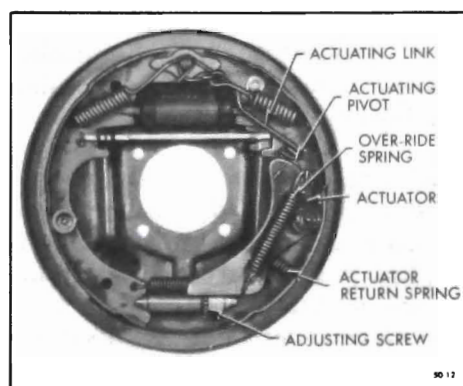

Figure 50-2--Left Rear Wheel Brake Assembly
A hydraulic wheel cylinder, mounted on the backing plate between the upper ends of the brake shoes, forces the shoes against the brake drum when the service brakes are applied. On rear wheels only, a lever mounted on each secondary shoe and connected to the primary shoe by a strut is used for applying the shoes when used as parking brakes. See Figure 50-2.
front parking brake cable is connected to the forward portion of a center cable. See Figures 50-3, 4 or 5. This center cable is routed rearward from the equalizer through retaining guides which attach to the underbody. The center cable attaches at either end to a rear cable assembly. Each rear cable connects to the free lower end of a brake shoe lever. These levers (one in each rear brake shoe assembly) pivot on the secondary shoes. Struts are mounted between the brake shoe levers and the primary shoes. See Figure 50-2.
6. Separate the brake shoes by removing adjusting screw and lock spring. Remove parking brake lever from secondary brake shoe (rear only). See Figure 50-2.